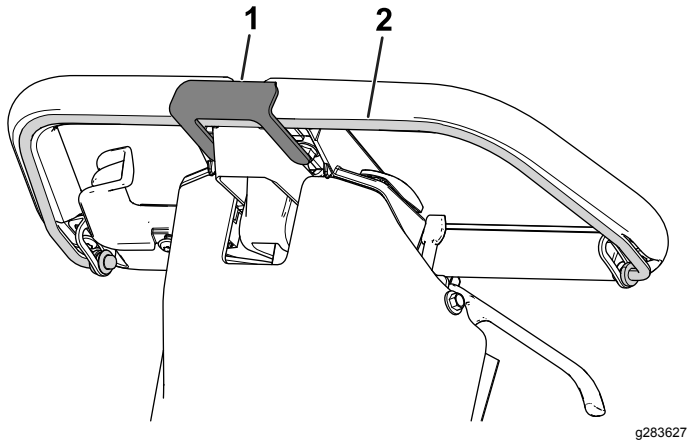

Figure 12
- **Machines equipped with the clutch bail:** Engage the clutch bail and install the bail catch (Figure 12).